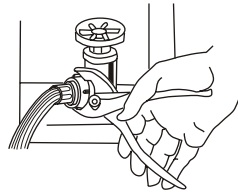

Figure 1
1. Attach the water inlet hoses to the water faucet. Using pliers, tighten the coupling. ( As figure 1)